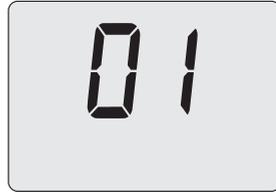

Figure 9.38
- Use 15 or 16 (Figure 9.23) to change the value of parameter A21 (Figure 9.38).